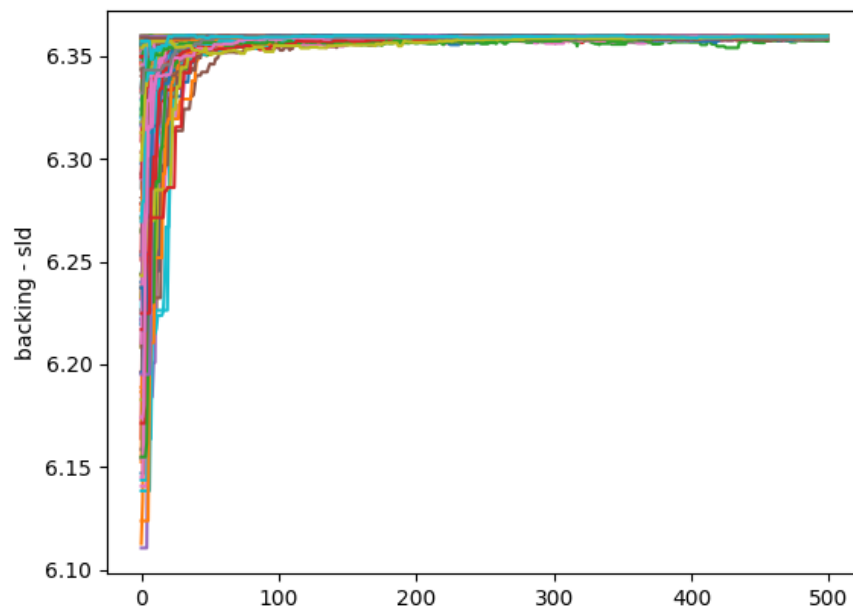

Figure 15
- Figure 15 shows the variation of the backing SLD (*steps_param_8.png* for me) for dataset e361 as a function of step number. You'll notice that the parameter doesn't become distributed around its equilibrium position until step ~ 70 . You should examine all these graphs and figure out how long it takes for the parameters to reach their final distribution. This value will be the 'burn' time; so-called because this number of steps are simply discarded.